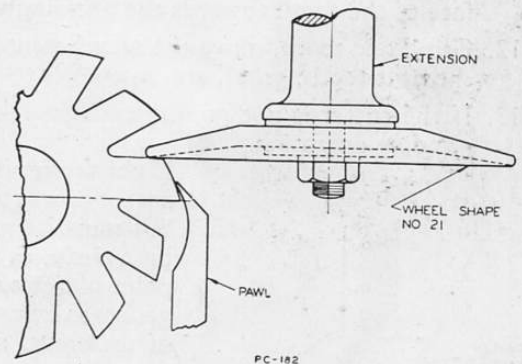

**Fig. 56**
**Gear Cutter Sharpening Attachment.** Since gear cutters are form relieved, the only correct way they can be sharpened is to grind the *faces* of the teeth. (Figs. 56 and 57). To accomplish this result, it is necessary that the feed or adjustment of the cutter to the grinding wheel should be a *rotary or circular adjustment*, as provided for in the Cincinnati Gear Cutter Sharpening Attachment.